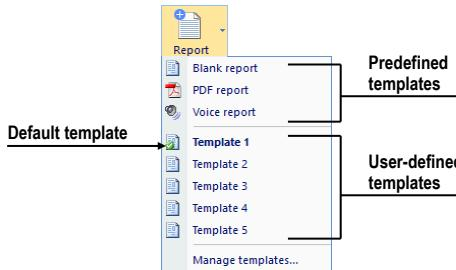

Figure 419 – Report button with menu
TomoCon offers the possibility of creating three types of reports – structured text report, PDF report and voice report. To create a new report from the default template, click **Report** button in the main toolbar. To create a new report from another specific template, click the drop-down arrow of **Report** button and choose the template from the menu (see Figure 419). To manage templates, click the drop-down arrow of **Report** button and choose **Manage templates...** item.
- **Text type templates** - write a text report in **Report** dialog displayed subsequently (see Figure 422). Select either **Blank report** template or another of the available text templates (e.g. Template 1, see Figure 419). User-defined text template defines the structure of the new text report.